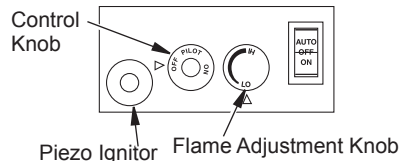

Figure 12 - Setting Control Knobs
4. Press in and turn control knob clockwise  to the OFF position (see Figure 12).
5. Wait five (5) minutes to clear out any gas. If you then smell gas, STOP! Follow "B" in the safety information in column 1. If you don't smell gas, go on the next step.
6. Press in and turn control knob counterclockwise  to the PILOT position. Press in control knob for five (5) seconds (see Figure 12).